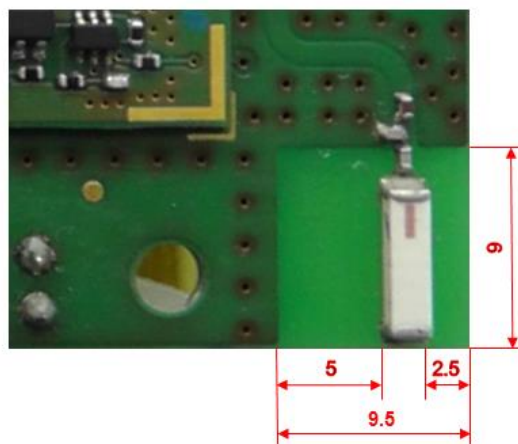

Figure 2-2 Chip antenna on a two-layer PCB
There are a lot of manufacturers who provide 2.4 GHz chip antenna, for example Antenova, Murata, Taiyo Yuden, TDK, Yageo, Johanson, etc. Figure 2-2 shows a chip antenna from Johanson, type 2450AT43A100.
- Certain area surrounding the antenna must be free of circuitry. Generally, the minimum is 3 mm, see Figure 2-2 for example (The dimensions are in mm.).